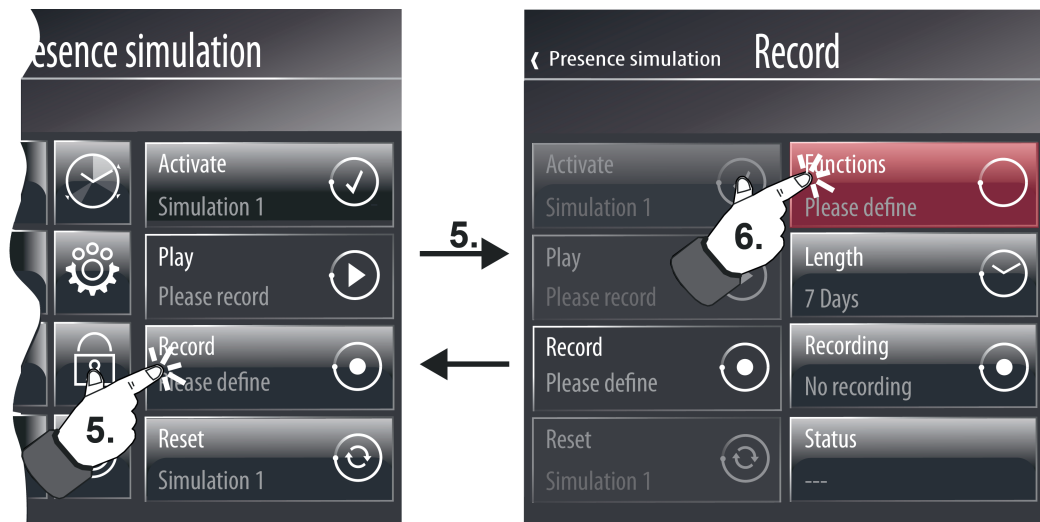

Figure 98: Example of a display page for opening the dialog for selecting functions (right)
The functions of a simulation can be selected when the control surface (C) is pressed (5.). After that, 4 additional operating and display elements appear in the display (figure 98).